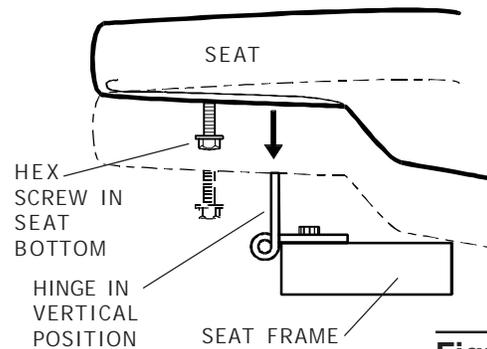

Figure 1
4. Turn the two hinges up into a vertical position. Lower the seat onto the chair with the seat resting on the hinges (See Figure 1).